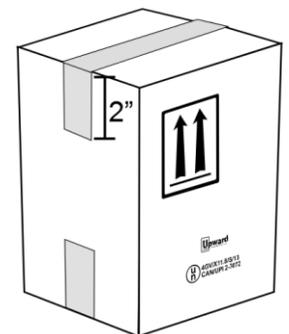

Figure 5
8. Fold flaps on top of carton and seal center seam with tape extending beyond each edge by at least 2". (See Figure 5)